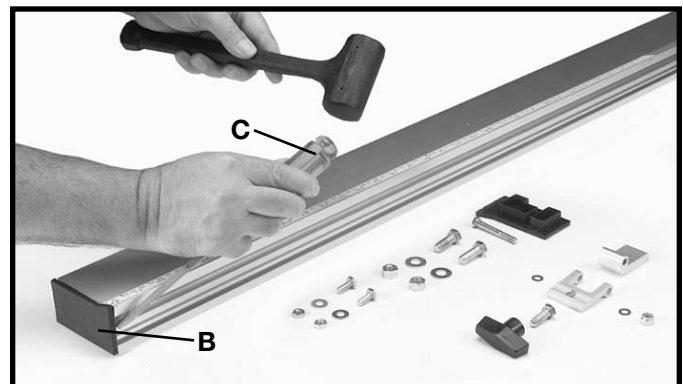

Fig. 48
2. The guide rail has end caps inserted into each end of the rail. Remove the end cap (B) Fig. 48, by inserting a flathead screwdriver (C) into the channel in the guide rail and press outward against the inside of the end cap (B) as shown. The end cap (B) will pop out. **NOTE:** Do not attempt to remove the end cap by forcing the screwdriver between the end cap and the end of the rail. This will damage both the cap and the rail.